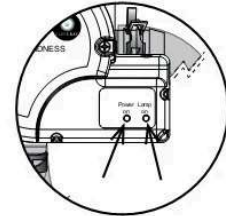

Figure 14.5g
19. Once power is activated you can check the ballast, Figure 14.5g, to see if the CLEARRAY System is functioning. The power on (red) light indicates that the CLEARRAY System is being provided power and should always be on. The lamp on (green) light indicates that UV bulb is activated.